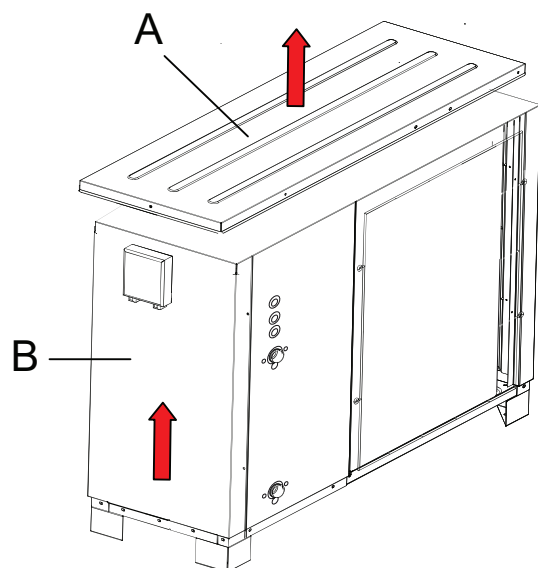

Figure 9-6 Remove the top cover
- 2.- Unscrewing the appropriate screws, first remove the top "A" and then lateral "B" cover of the appliance (Figure 9-6);